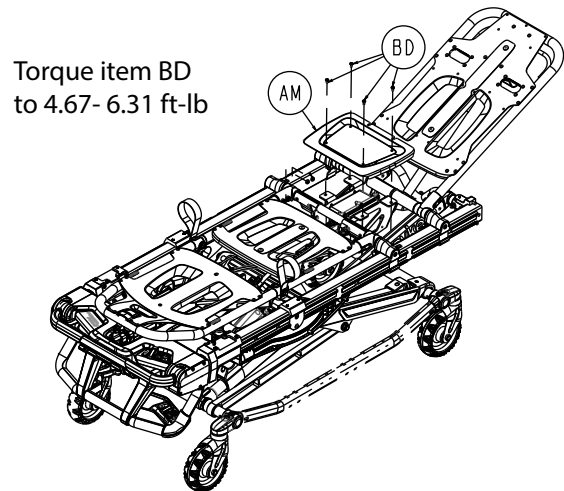

Figure 101 – Remove the screws and seat skin
22. Using a T25 Torx driver, remove the four pan head thread rolling screws (BD) that secure the seat skin (AM) to the cot (Figure 101). Remove and save the seat skin. Save the screws.